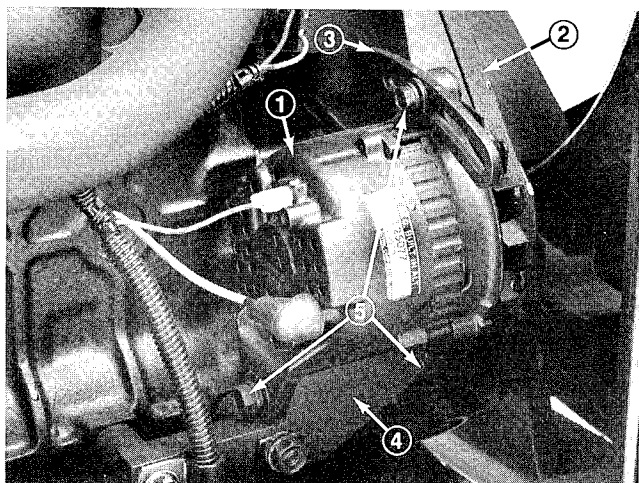

Figure 42
- C. Loosen bolts (3) securing alternator to plate and mounting bracket (Fig. 42). Rotate alternator away from engine to increase tension and tighten bolts. Check belt tension after adjustment and re-adjust, if necessary.